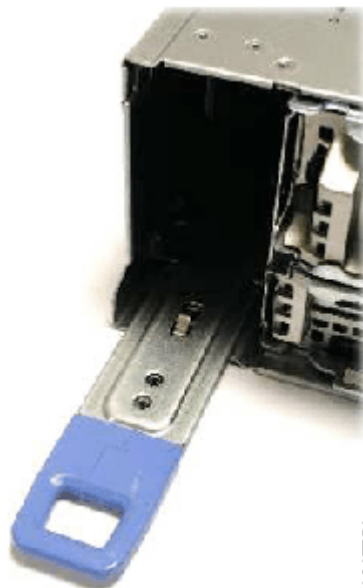

Figure 93. Sliding out the power interposer
2. Remove the power interposer by pulling on the blue handle that is located beneath the PSU slot. Figure 93 on page 141 shows an example.